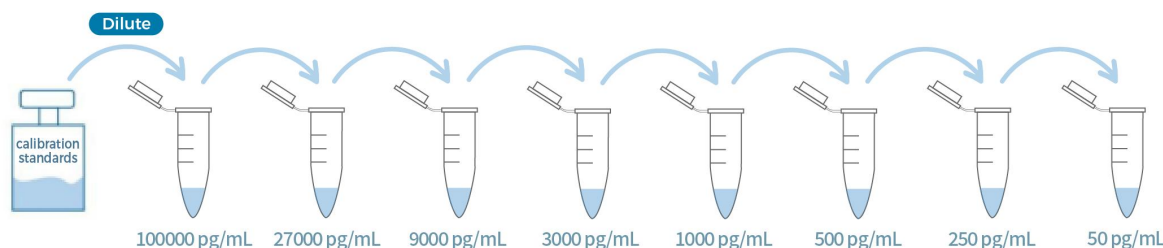

Figure 3. Graphic scheme of p24-Ag Calibration Standard Solutions
(1) Equilibration
(2) Preparation of Reagents
(3) Preparation of Calibration Standard Solutions
- Prepare p24-Ag Calibration Standard Solutions as indicated in Figure 3 and Table 3.